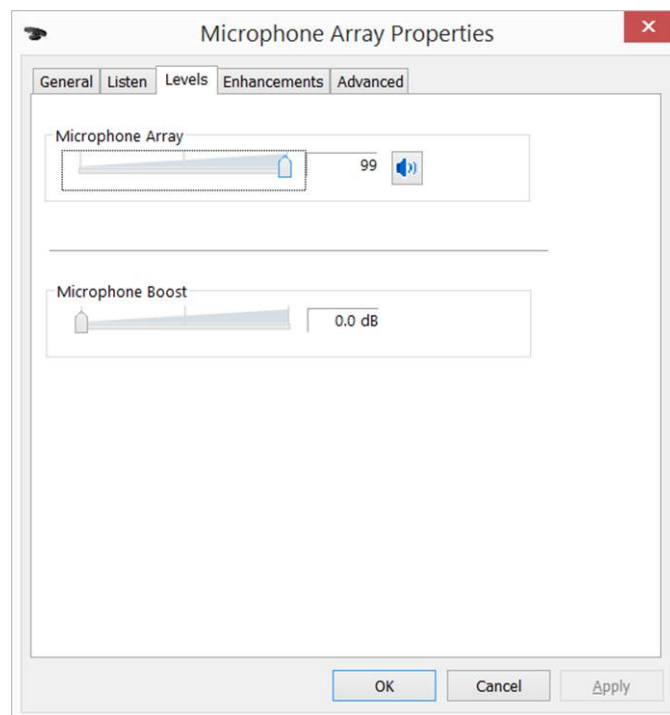

Figure 2-2 Microphone Boost Turned Off
- 13) Turn any boost settings or other special volume settings completely off (for example, set **Microphone Boost** to 0.0dB). See Figure 2-2 for an example.